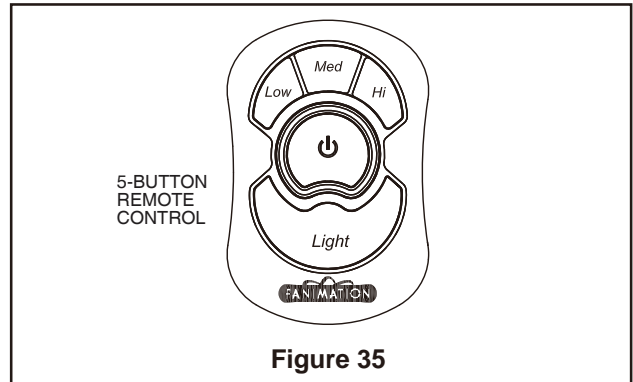

Figure 35
4. The 5-button hand-held remote transmitter includes five buttons for high, medium and low fan speeds as well as fan off and light on/off. Infinite light levels are available by holding the light on/off button (Figure 35).